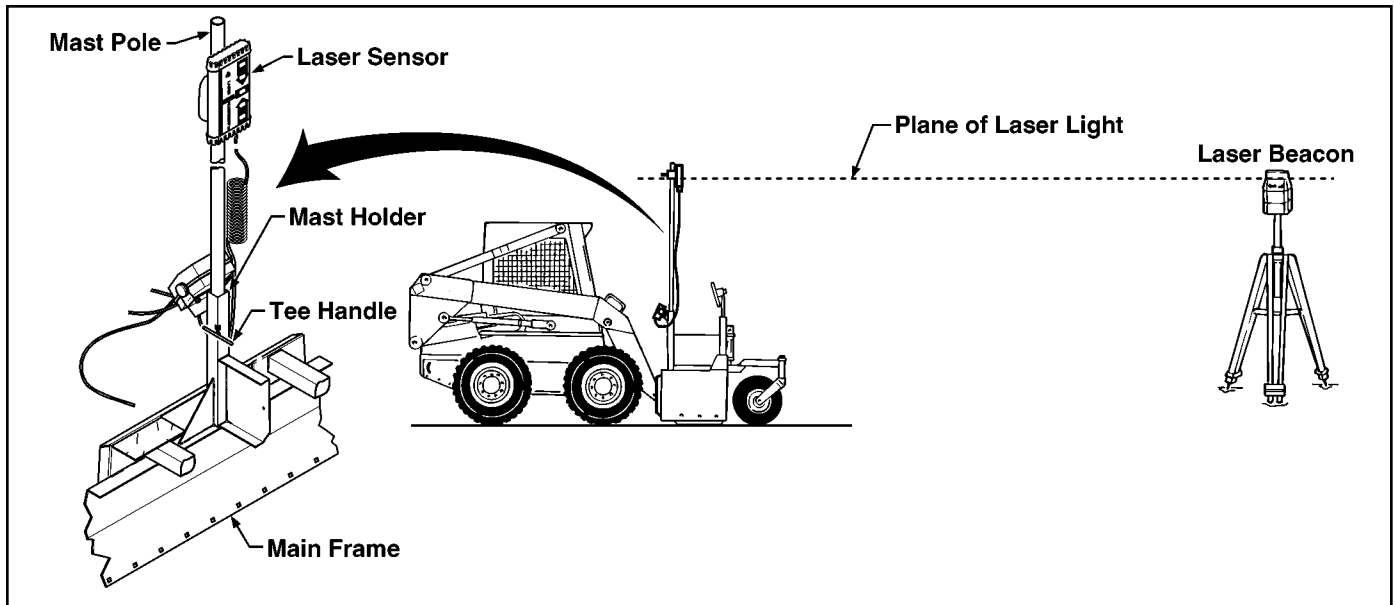

Figure 2-2 Components of the Automatic Control System
5. **Insert Mast** in holder until it rests at bottom of tube and tighten with tee handle at base. Clamp the Laser Sensor near the top of the Mast so it is higher than any local obstruction including Skid Steer cab or fall protection devices. (Refer to Figure 2-2).